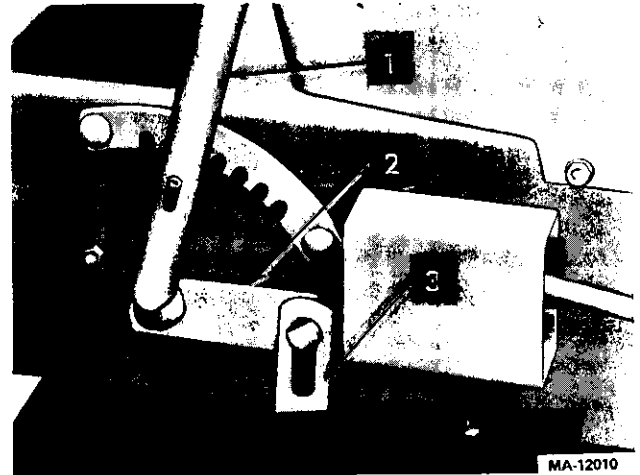

FIGURE 23.
5. Raise the mower by hand, first on one side and then the other, to disconnect the mower lift links from the mower. See figure 23.